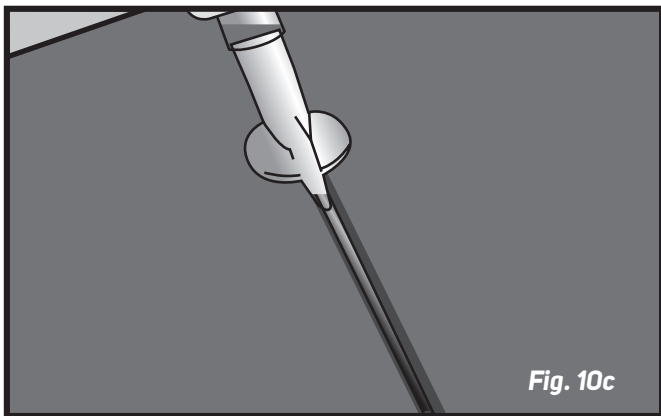

Fig. 10c
- Insert the custom applicator tip into the seam of the tiles until the depth guide (washer) comes in contact with the top of the tiles (**Fig. 10c**).